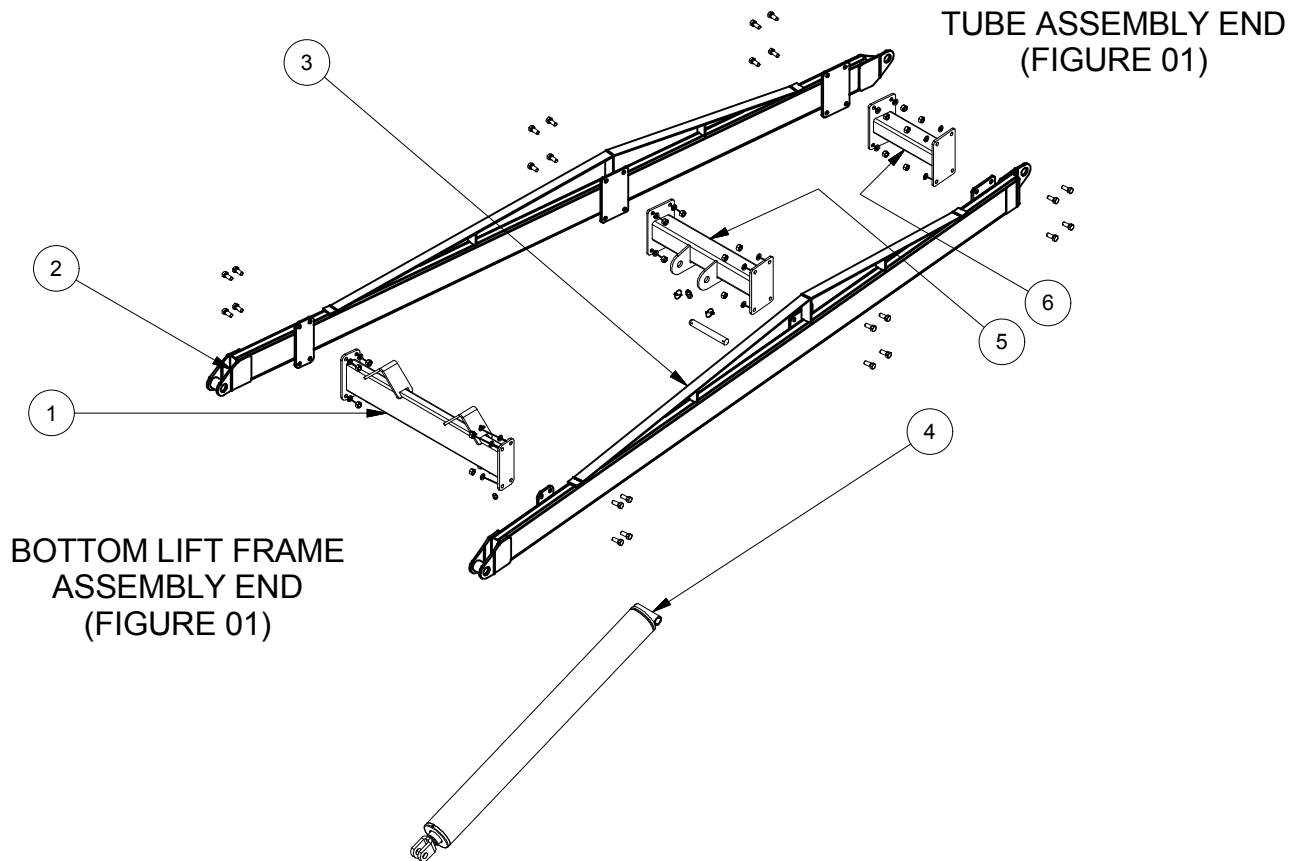

FIGURE 09
1. Lay frame out as shown in **(FIGURE 09)**.